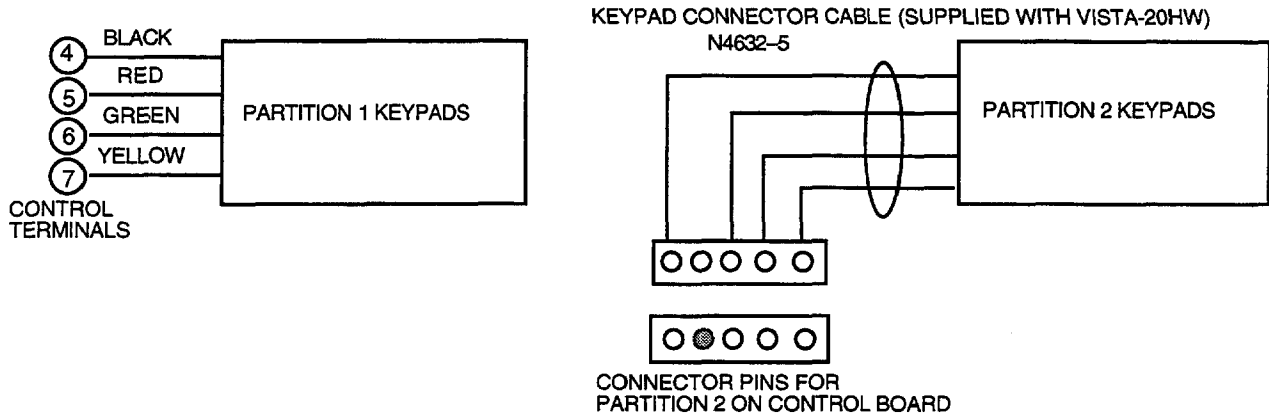

Figure 5. Keypad Connections To The Control Board
- a. Terminals 1, 3 (AC), and 2 (Ground) to control board terminals 1, 2, and 25, respectively (see Figure 5). See wiring table below for wire gauge to use.
3. Connect remote Keypads for Partition 1 to terminals 4, 5, 6, and 7 on the control board, as shown in Figure 5.